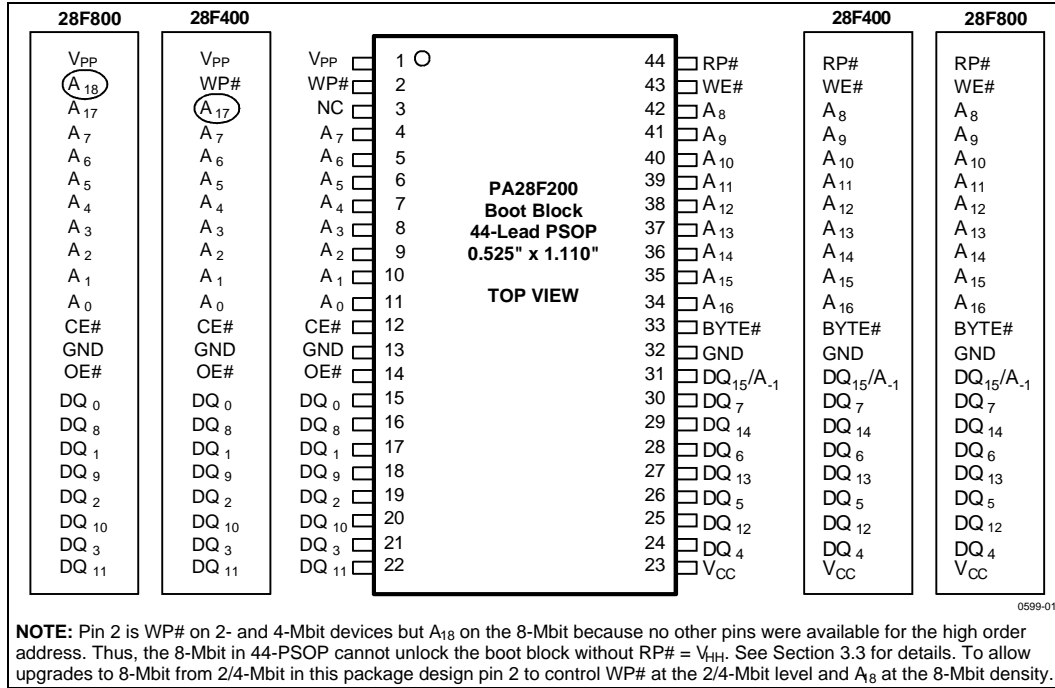
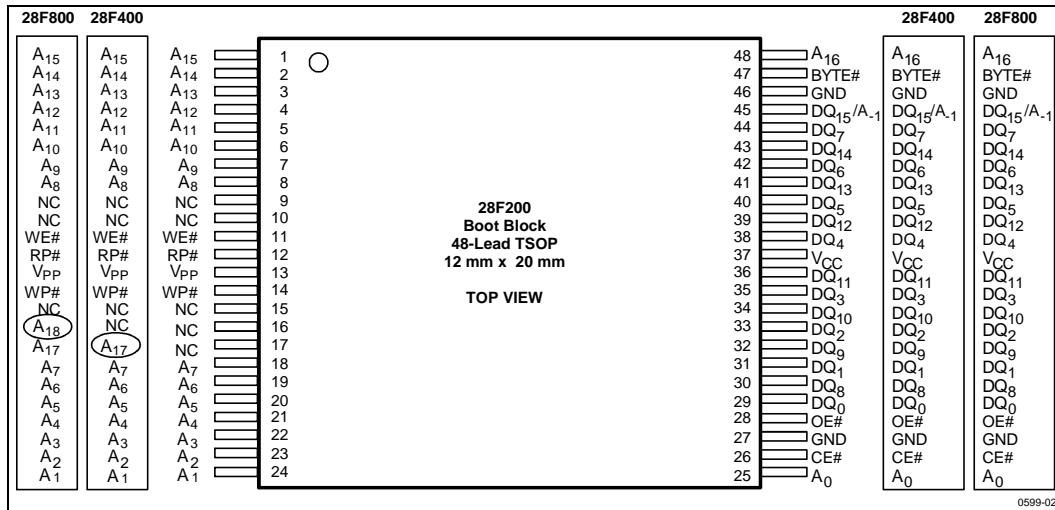

Figure 1. 44-Lead PSOP Pinout Diagram
Figure 2. 48-Lead TSOP Pinout Diagram
-002	Minor changes throughout document. Section 3.1.5 and Figure 14 redone to clarify program/erase operation abort. Information added to Table 2, Figure 1, and Section 3.3 to clarify WP# on 8-Mbit, 44-PSOP. Read and Write Waveforms changed to numbered format. Typical numbers removed from DC Characteristics and Erase/Program Timings.
-003	Minor text changes throughout document. Figure 1, 44-PSOP pinout: mistake on pin 3 on 2-Mbit pinout corrected from A 17 to NC. Specs $t_{EHQZ}$ and $t_{GHQZ}$ improved. Explanations of program/erase abort commands reworked in Table 6, Command Codes.
These Smart 5 memory products are available in the 44-lead PSOP (Plastic Small Outline Package), which is ROM/EPROM-compatible, and the 48-lead TSOP (Thin Small Outline Package, 1.2 mm thick) as shown in Figure 1, and 2, respectively.
Intel's Smart 5 boot block architecture provides upgrade paths in each package pinout up to the 8-Mbit density. The 44-lead PSOP pinout follows the industry-standard ROM/EPROM pinout, as shown in Figure 1. Designs with space concerns should consider the 48-lead pinout shown in Figure 2. Applications using an 8-bit bus can use the 40-lead TSOP, which is available for the 4-Mbit device only.